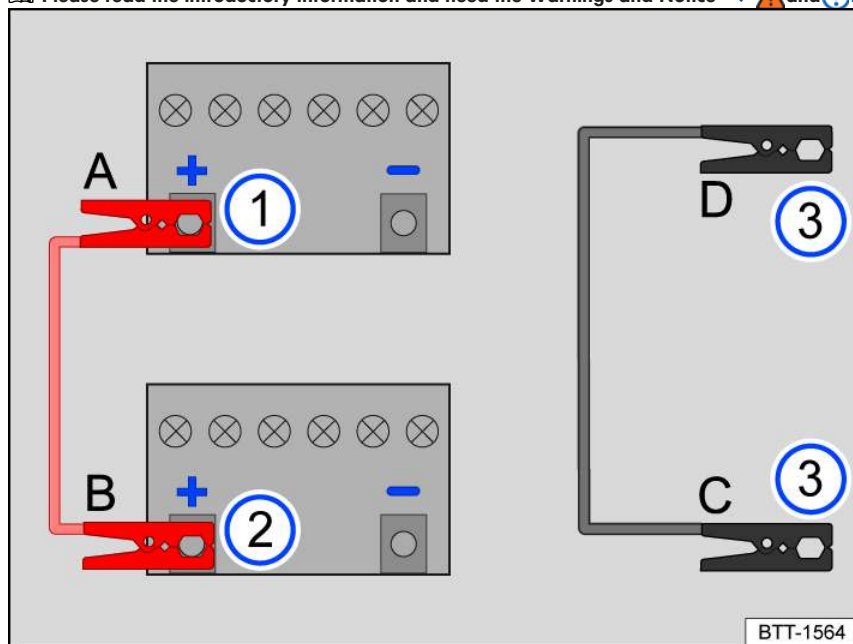

Fig. 133 Diagram for connecting the jumper cables.
Only connect the jumper cables in the sequence **A – B – C – D** *fig. 133*.
3. Connect one end of the *red* jumper cable **A** to the positive battery terminal + of the vehicle battery with the discharged 12-volt vehicle battery *fig. 133* ① ⇒ ,
4. Connect the other end of the *red* jumper cable **B** to the positive battery terminal + of the vehicle supplying the power *fig. 133* ②.
5. Connect one end of the *black* jumper cable **C** preferably to a jump-start point (negative connection), otherwise to a large metal part that is bolted securely to the cylinder block or to the cylinder block itself of the vehicle supplying the power *fig. 133* ③.
6. Connect the other end of the *black* jumper cable **D** to the jump-start point (negative connection), a large metal part bolted to the engine block, or to the engine block itself in the vehicle with the drained 12-volt vehicle battery *fig. 133* , ⇒ .
3. With the engines running, disconnect the jumper cables only in the sequence **D – C – B – A** *fig. 133*.